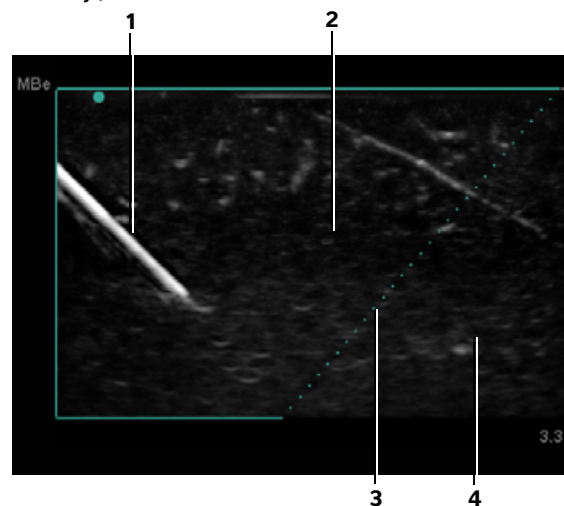

Figure 1 Image with MBe on (linear transducer):
- Note that linear structures are enhanced only in an outlined portion of the image. The area outside the outline remains unchanged. (See Figure 1 on page 31.)
The MBe control turns on SonoMBe™ imaging, which enhances linear structures within a selected angle range and can facilitate needle guidance during catheter placement and nerve-block procedures. A three- or four-sided outline indicates the enhancement area. (See Figure 1 on page 31.)